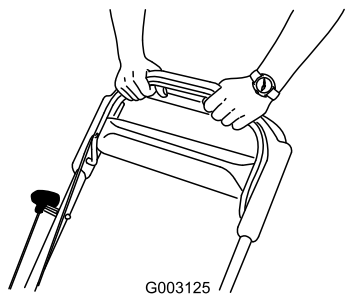

Figure 19
3. Hold the blade control bar against the handle (Figure 19).